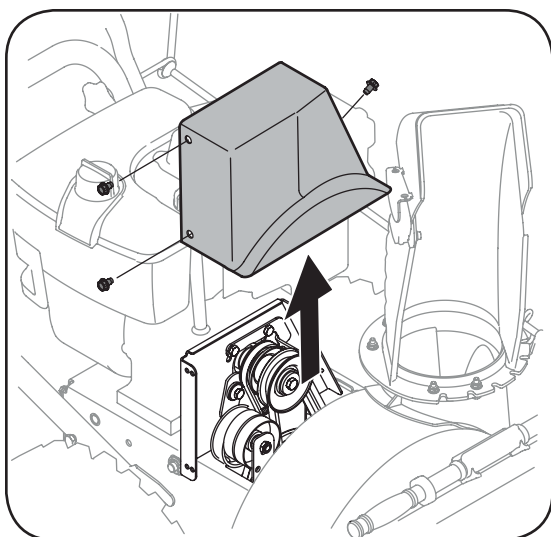

Figure 6-4
2. Remove the plastic belt cover, located near the engine, by removing the three self-tapping screws that secure it. See Figure 6-4.